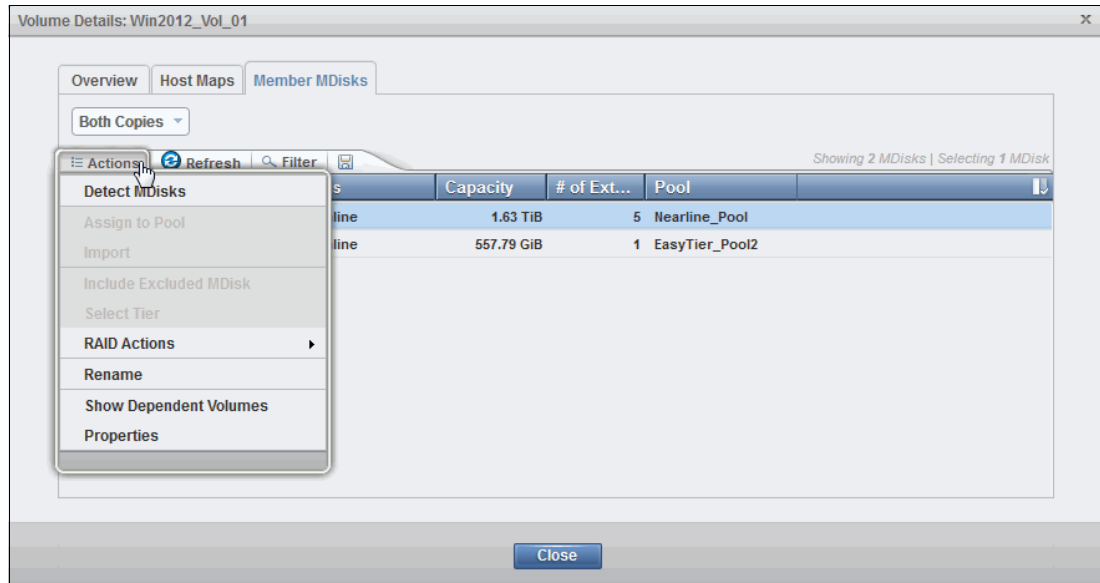

Figure 8-59 MDisk Actions menu
2. Select an MDisk and click **Actions** to see the available tasks, as shown in Figure 8-59. For more information about the available tasks, see Chapter 7, “Storage Pools” on page 307.